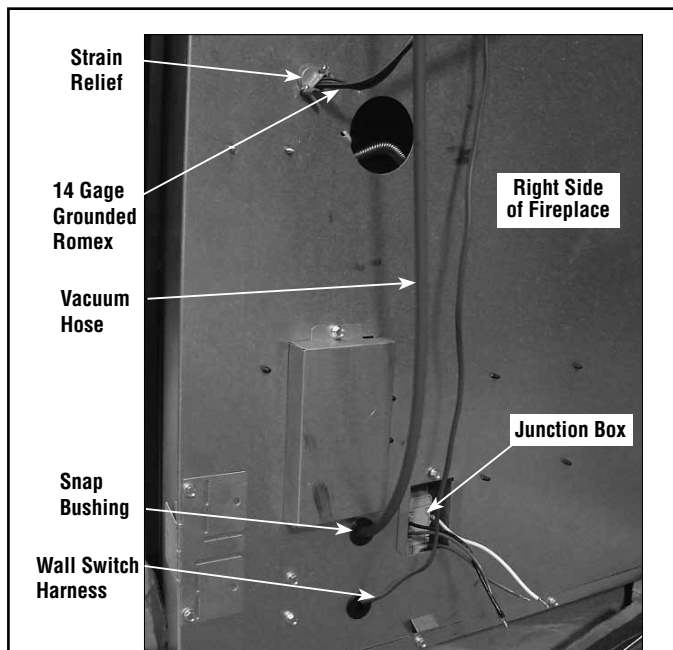

Figure 20
- Install the strain relief in the hole provided on the right side of fireplace for the electrical wiring (refer to *Figure 20*).